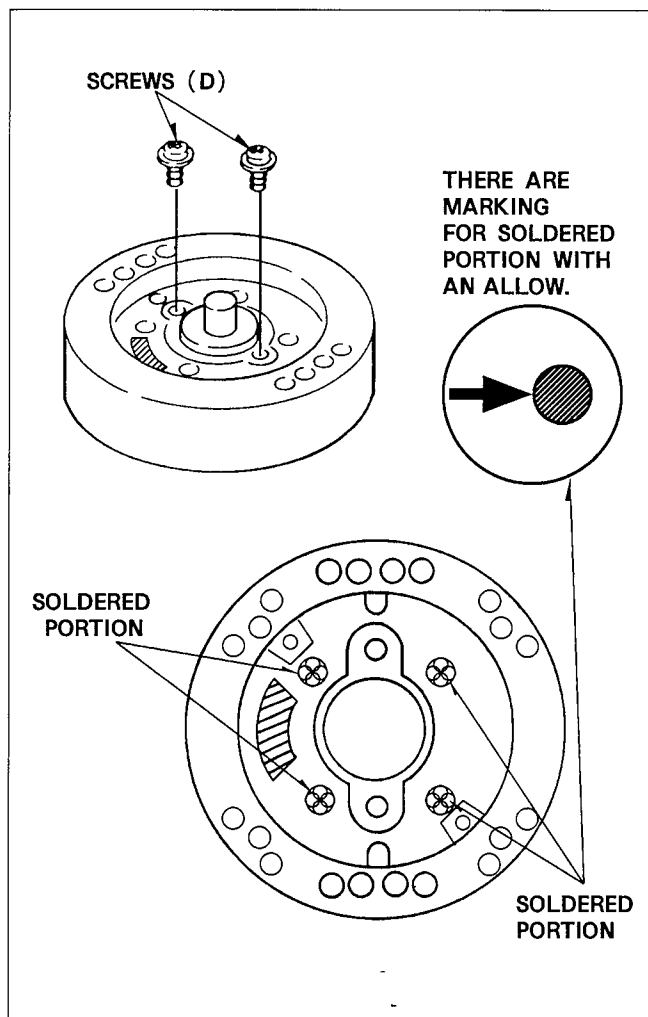

Figure M10-A
2. The Upper Cylinder unit can be reinstalled by reversing the removal procedure. However, when Upper Cylinder is installed, be extremely carefully so that white portion of P.C.Board of Upper Cylinder correctly matches the white portion of bottom cylinder as shown in Figure M10-A.